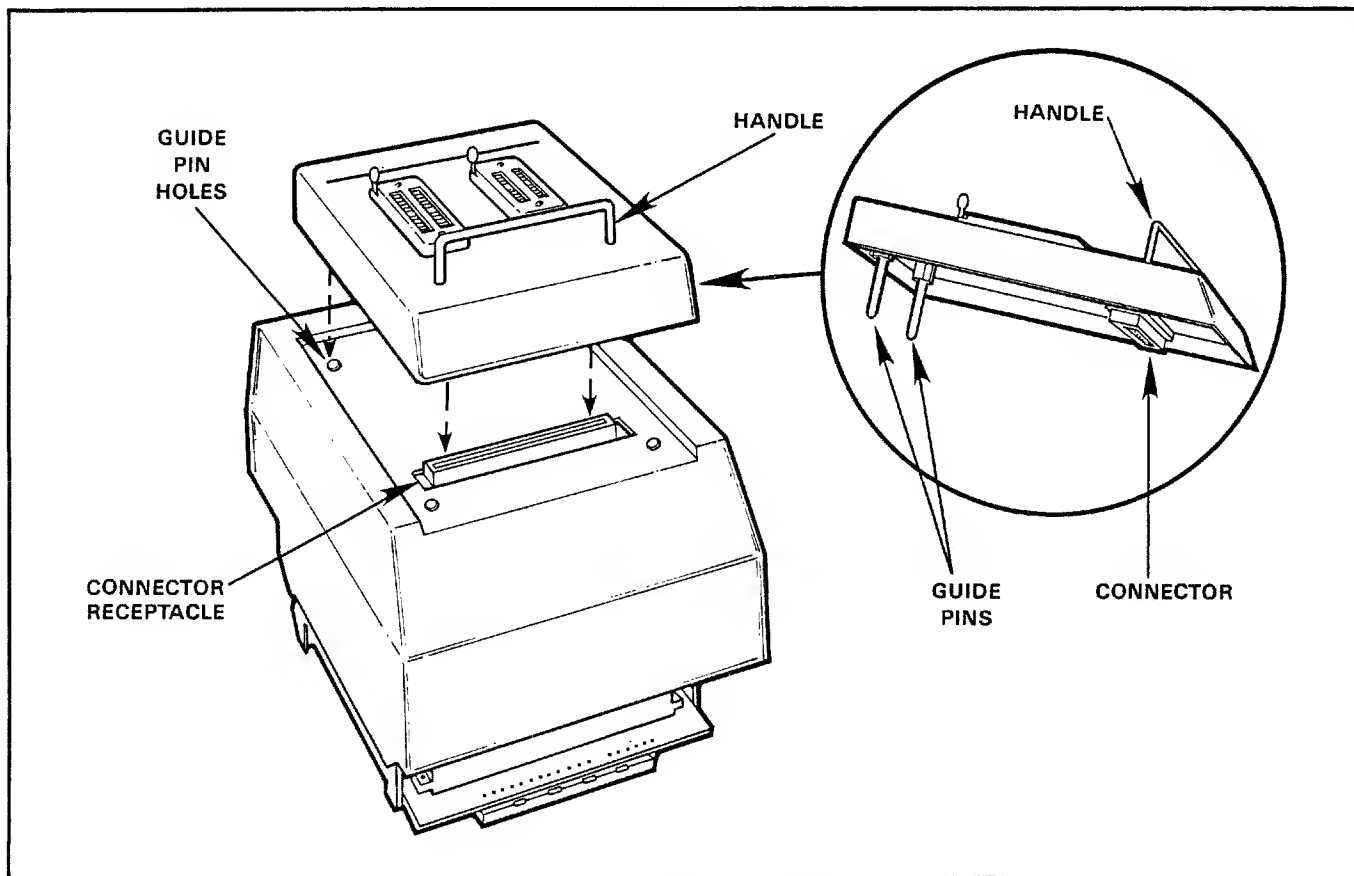

Figure 2-2. Adapter Installation
2. Align the guide pins on the underside of the adapter with the guide pin holes on the LogicPak™ (see figure 2-2).
4. Firmly press down on the front edge of the adapter to lock the connector pins into the connector receptacle (see figure 2-2).